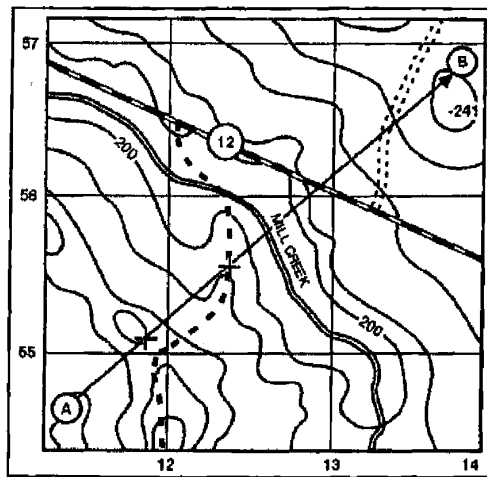

Figure 071-329-1006-1. Straight-line route
b. In using association, you locate first your position on the map then your destination or objective. It will seldom be the best way to travel. For example, look at figure 071-329-1006-1. Assume that you are to move from point A to point B. You see that a straight line could cause you to climb several small ridges and valleys (the "Xs" on figure 071-329-1006-1).